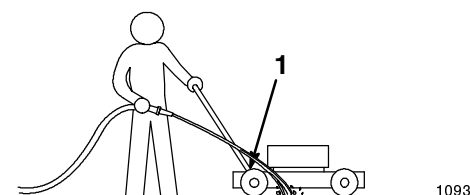

Figure 23
3. Hold the running garden hose at handle level and direct the water to flow on the ground just in front of the right rear tire (Fig. 23).